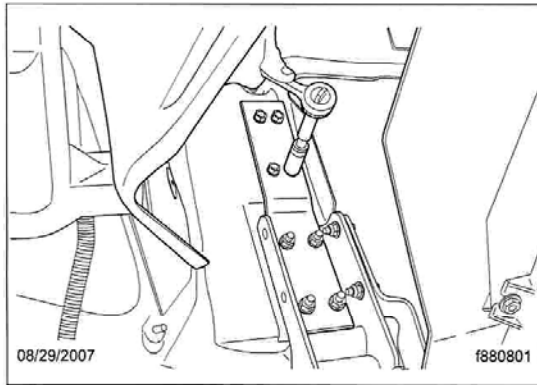

Fig. 7, Installing Bolts with Lockwashers into Tapped Holes in Front Plate Assemblies
11. Install four bolts 23-10746-100 through lockwashers 23-09318-011 and into the four tapped holes in bracket 17-17603-000. Tighten the bolts into the two front plate assemblies A17-17602-000 to 26 lbf-ft (35 N-m). See Fig. 7.